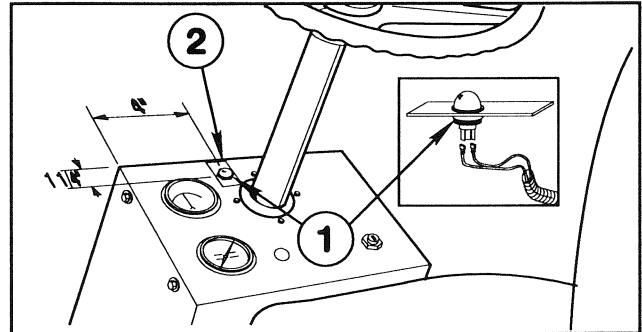

FIG. 8
4. Mount Fuse Block to Console Cover using two (2) # 10 NC x 5/8" rec. rd. hd. mach. screws and hex nuts.
6. Route Wiring Harness through floor and back through axle mounting bracket. Route the harness section with three (3) clear 6-way connectors back along left side of Vehicle to behind engine. Then guide up, into the Seat Box.
7. Install Sonic Boom™ Decal and Indicator Light on Dash (1 1/16" DIA. hole required.) Connect Harness Leads to Light. Reinstall the Console Cover. See FIG. 8